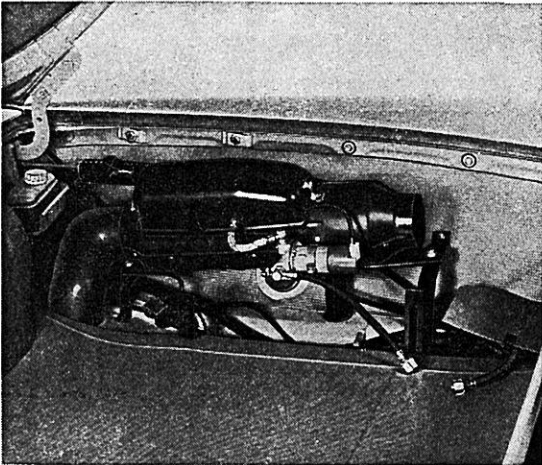

Fig. 15
- 24 – Cut luggage compartment cardboard to fit and install it (Fig. 15).